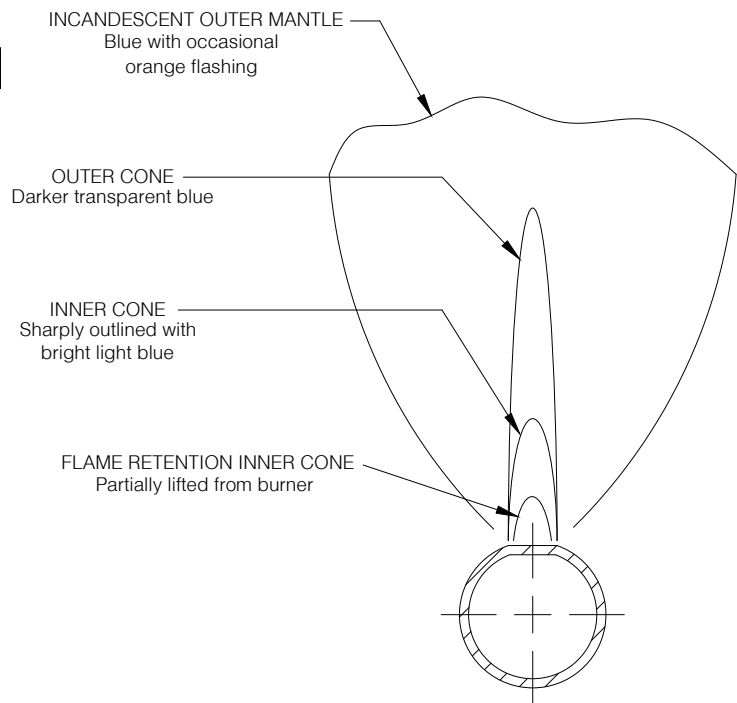

Figure 7-3: Main Burner Flame
3. Check main burner flames. See Figure 7-3. Flame should have clearly defined inner cones with no yellow tipping. Orange-yellow streaks caused by dust should not be confused with true yellow tipping. Yellow-tipping indicates lack of primary air. Improper burner alignment on Main Burner Orifice will also affect primary air injection. Adjust primary air shutter as follows: